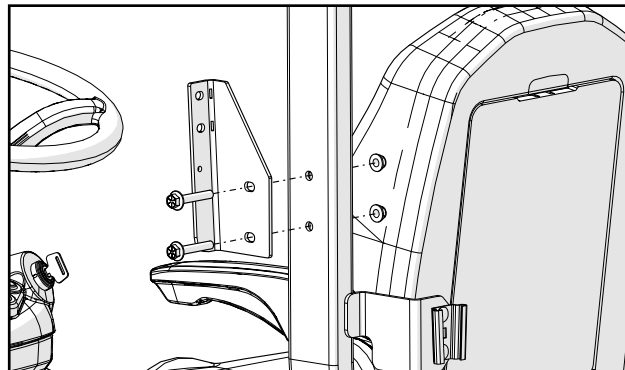

Fig. 2.1 (Assemble Brackets to ROPS)
- 2.1 Install the left ROPS Bracket onto the outside of the ROPS through the holes shown. See Figure 2.1. Leave just loose enough for adjustment.